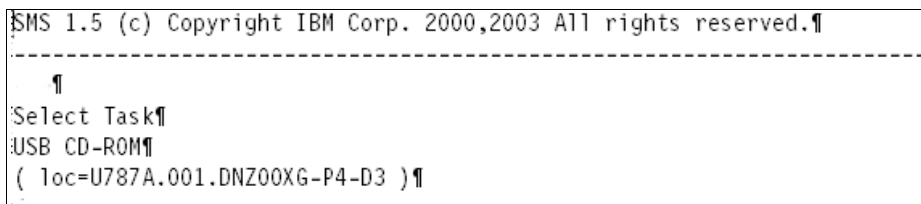

Figure 9-6 Select CD-ROM
- f. Finally, select **1. USB CD-ROM**. See Figure 9-6 on page 372.